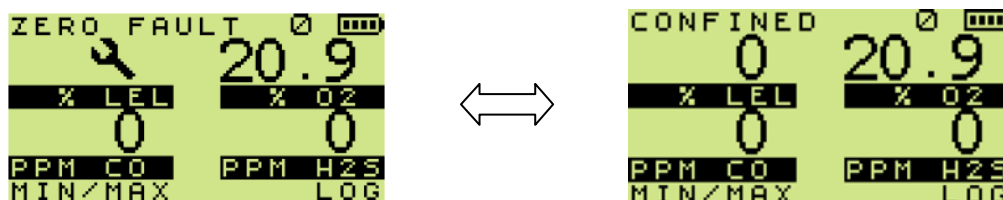

Figure 49: Zero Fault (LEL)
- A flashing spanner (wrench) indicates the affected range, as shown in Figure 49: Zero Fault \(LEL\).
- 'ZERO FAULT' and a spanner (wrench) symbol, alternating with a gas reading, as illustrated in Figure 49: Zero Fault \(LEL\).